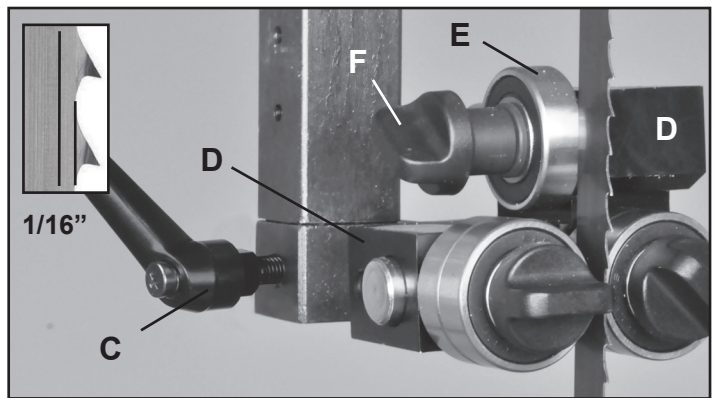
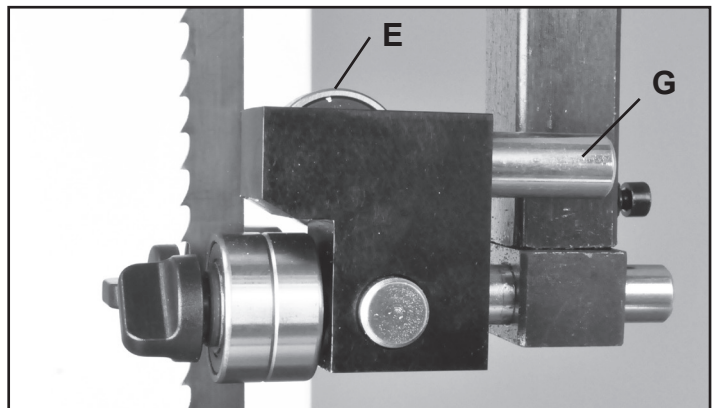

FIGURE 23 NOTE: Blade Guard removed for photo purposes
FIGURE 24 NOTE: Blade Guard removed for photo purposes
2. The guides should be approximately 1/16" behind the gullets of the saw blade. If they need to be moved, loosen the back Clamp Handle (#31C, Fig. 23, C) and move the Upper Guide Block (#20C, D) that holds the guides so that the guides are properly positioned behind the blade gullets. Re-tighten the handle when done. Fig. 23.
4. Adjust the rear bearing guide (Fig. 23, E) to be just clear of the back of the saw blade. Release the guide's Locking Handle (#17C, F) and move the rear guide towards the blade by pushing the end of the Rear Guide Shaft (#27C, Fig. 24, G) located at the rear of the block. Tighten the handle when done.